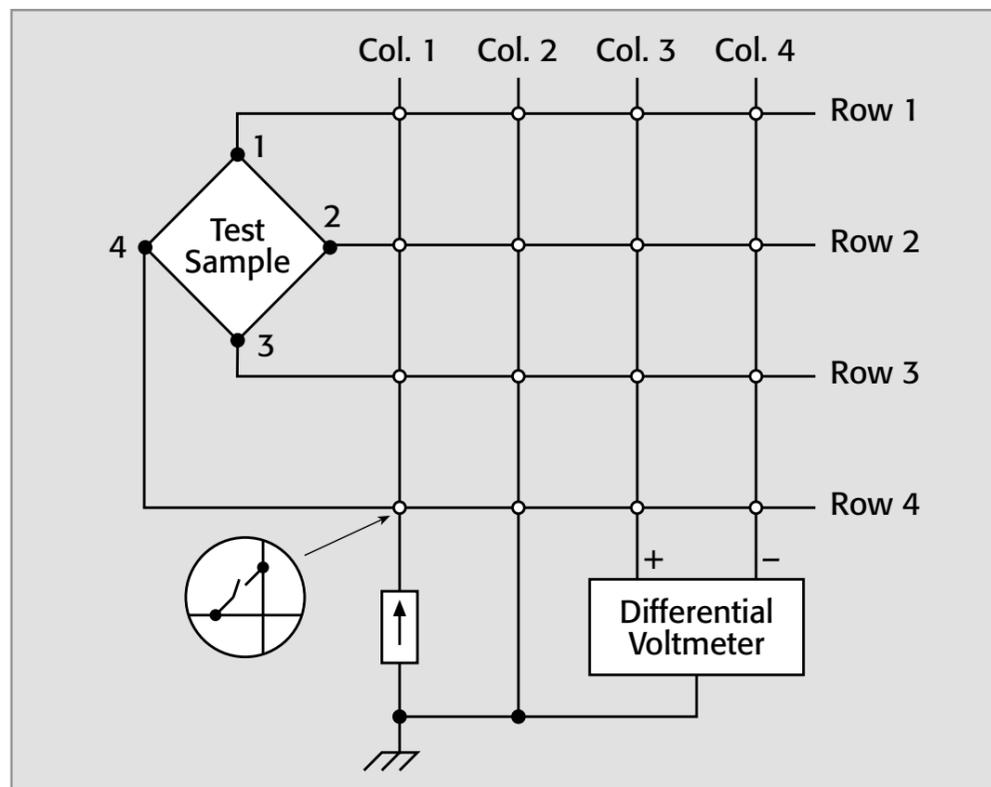

Figure 27. Van der Pauw resistivity measurements through a switch matrix
**Figure 27** shows a simplified van der Pauw resistivity measurement with a current source and a differential voltmeter. By closing crosspoints Row 1/Column 1 and Row 2/Column 2, the current source is connected to sample terminals 1 and 2. Closing crosspoints Row 3/Column 3 and Row 4/Column 4 will connect the voltmeter between terminals 3 and 4. For more detailed information on van der Pauw resistivity measurements, consult Keithley's *Low Level Measurements Handbook*.